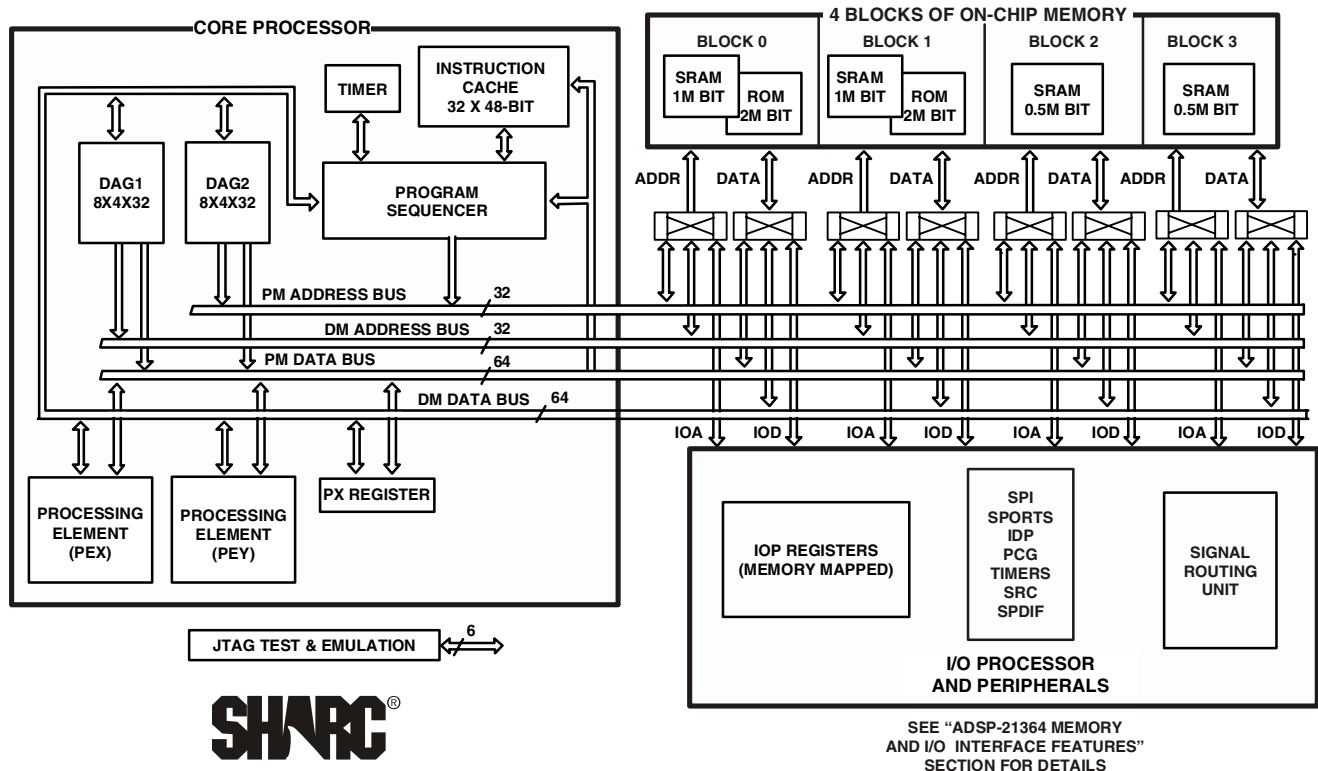

Figure 1. Functional Block Diagram – Processor Core
The ADSP-21364 features an enhanced Harvard architecture in which the data memory (DM) bus transfers data and the program memory (PM) bus transfers both instructions and data (see Figure 1 on Page 1). With the ADSP-21364’s separate program and data memory buses and on-chip instruction cache, the processor can simultaneously fetch four operands (two over each data bus) and one instruction (from the cache), all in a single cycle.